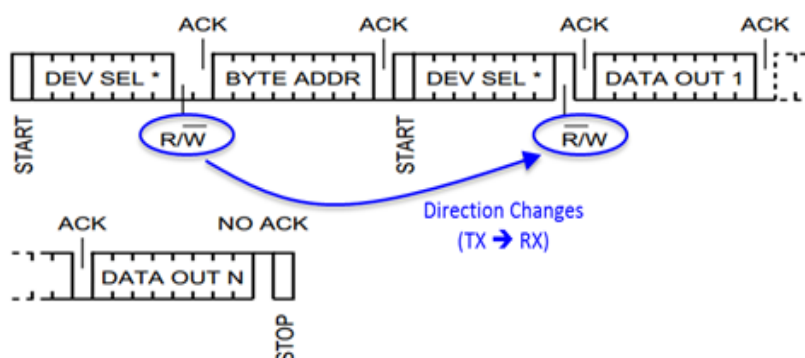

Figure 5-9. I2C sequential random read protocol
For example in Figure 5-9 (settings of DMA and I2C are listed in Table 5-2), the settings should be set before I2C transaction (START::START(I2Cx_Base + 0x24)[0]).
- The DMA direction is controlled by I2C. When I2C changes the DMA direction (as shown in Figure 5-9), it will send the side-band signal to DMA. When the DMA direction (Tx -> Rx) is changed by I2C, enable DMA again until "Rx transfer length" is received.